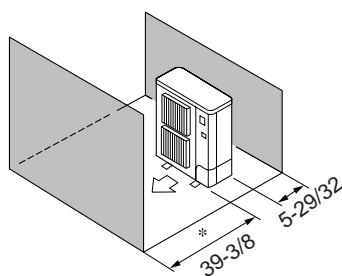

Fig. 2-6
- ⑤ Obstacles at front and rear only (Fig. 2-6)